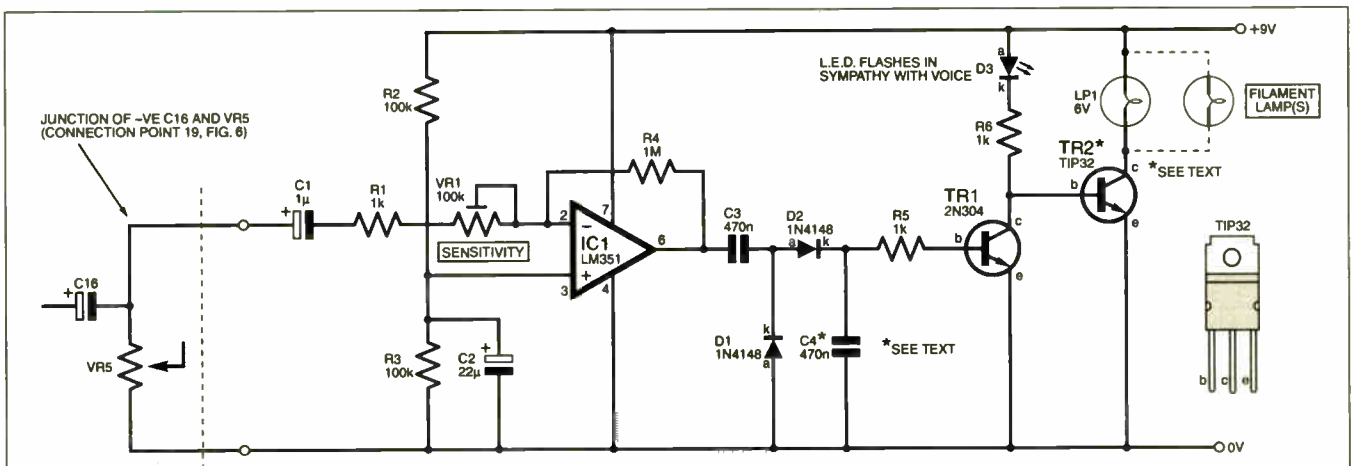

Fig.1. Circuit for the add-on Cybervox Light Interface for the EPE Cybervox Dalek voice emulator project – July '05 issue
**D**ALEK aficionados will know that when these diabolical creatures speak, a set of head mounted lights flash in sympathy with each spine-chilling word spoken. The circuit shown in Fig.1 is designed to be attached to the *EPE Cybervox* (July '05) and will flash filament lights whenever a word is spoken.